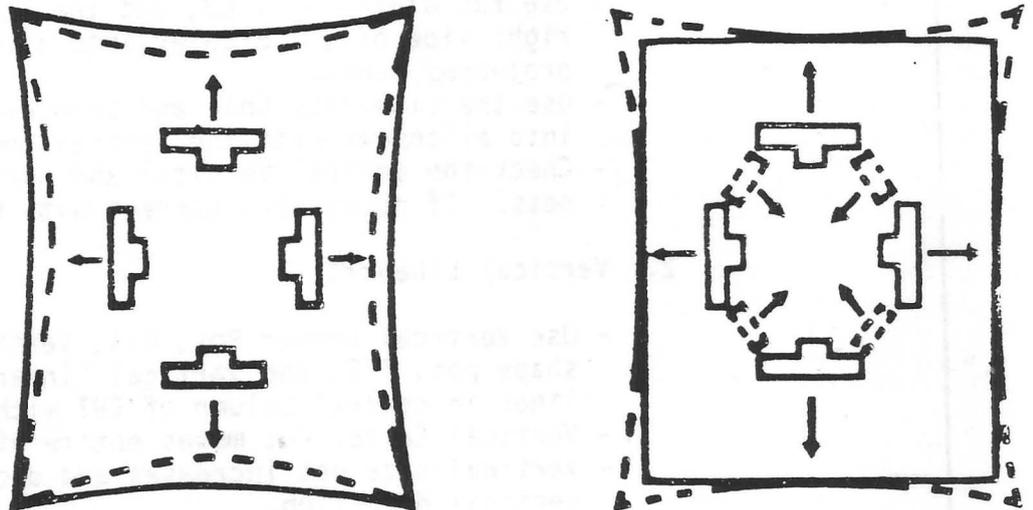

FIGURE 7
- Using permanent magnets pull the side as straight as possible, yet leave the top and bottom half of the side symmetrical. See Figure 7. The same procedure is used on top and bottom.